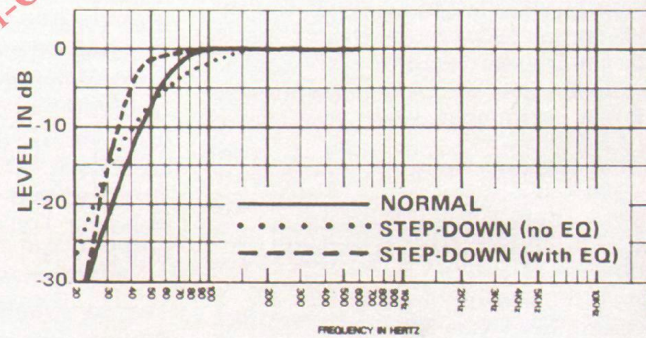
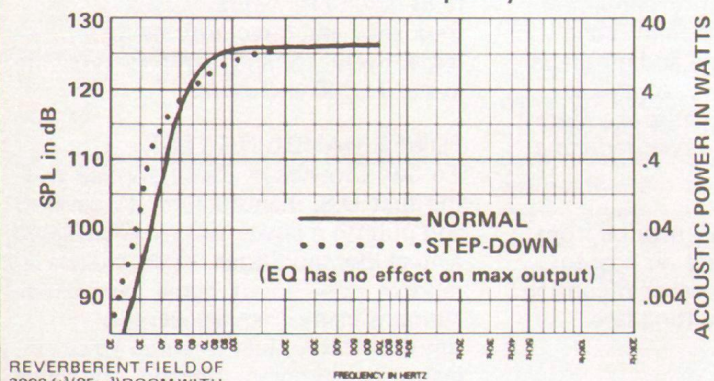

FIGURE 6
FIGURE 7
Figure 6 shows small-signal total acoustic power output vs. frequency for the TL606/EVM-15B, Pro-Line. In addition, Figure 7 shows the maximum acoustic power output versus frequency. The maximum output is limited by either (1) the thermal power handling capacity of the speaker, or (2) the speaker's maximum linear cone excursion capabilities, whichever occurs first. Note that some 2 to 3 dB of maximum output in the 60 to 90 Hz range is sacrificed when the step-down mode is used.